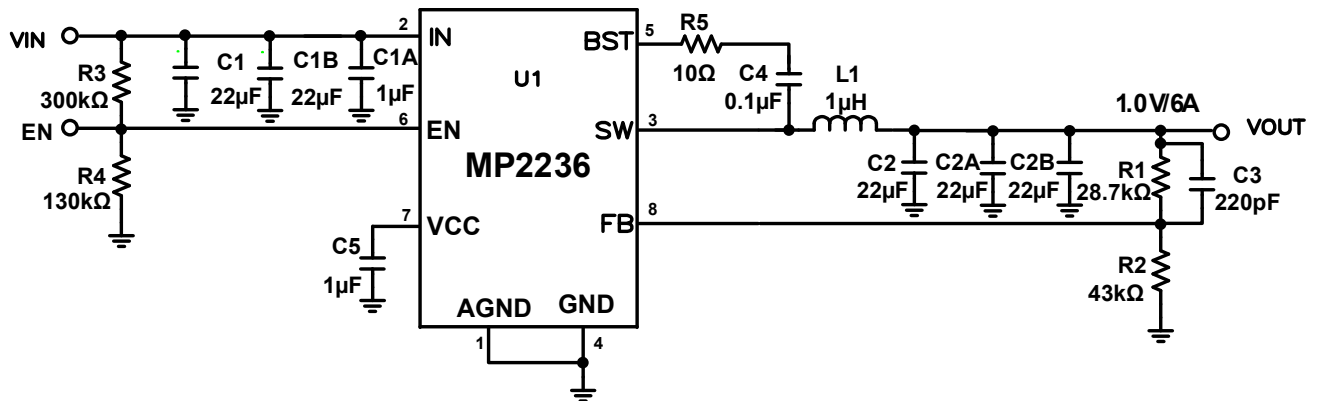

Figure 7: 12V  $V_{IN}$ , 1.0V/6A Output
The detailed application schematics are shown in Figure 7 through Figure 11. The typical performance and circuit waveforms are shown in the Typical Performance Characteristics section. For more device applications, please refer to the related evaluation board datasheets.
- 9) The recommended layout is based on the Typical Application Circuits shown in Figure 7 to Figure 11.